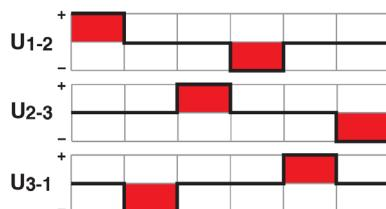

Figure 6-43 Block commutation of EC (BLDC) motors – Definition of phases
- either ensure that the alignment follows the specified pattern (→Figure 6-43)